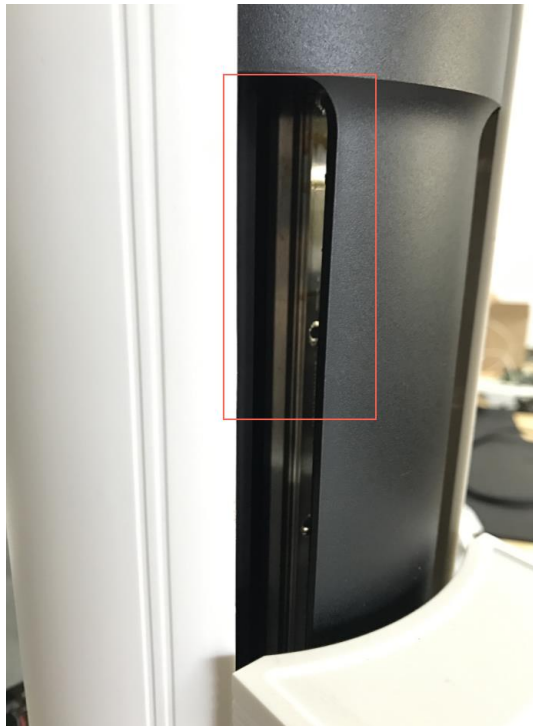

Figure 7.2 Guide rail of Z-axis
- Step 2** Stretch the syringe with needle into the guide rail from the gap in the top of the shell of Z-axis, as shown in Figure 7.2. Inject two or three drops of grease on each side of guide rail respectively. The grease of which the kinematic viscosity is 30cst to 150cst is recommended, such as engine oil.